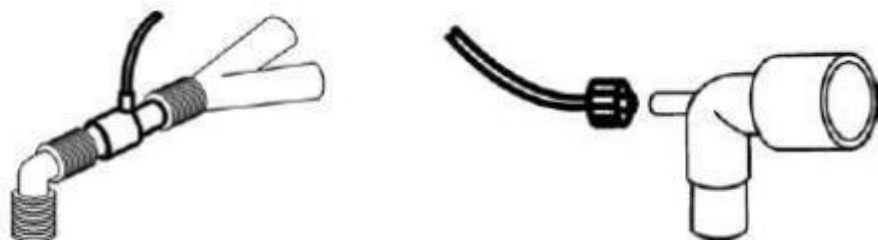

Figure 13-4
- (6) The Adult/Pediatric side-stream on-airway adapter kits should be used when monitoring intubated patients with Endotracheal Tube diameters greater than 4.0 mm as shown following. Place the on-airway adapter at the proximal end of the airway circuit between the elbow and the ventilator circuit wye. Check that connections have been made correctly by verifying the presence of a proper capnogram on the Patient Monitor, shown as Figure 13-4.